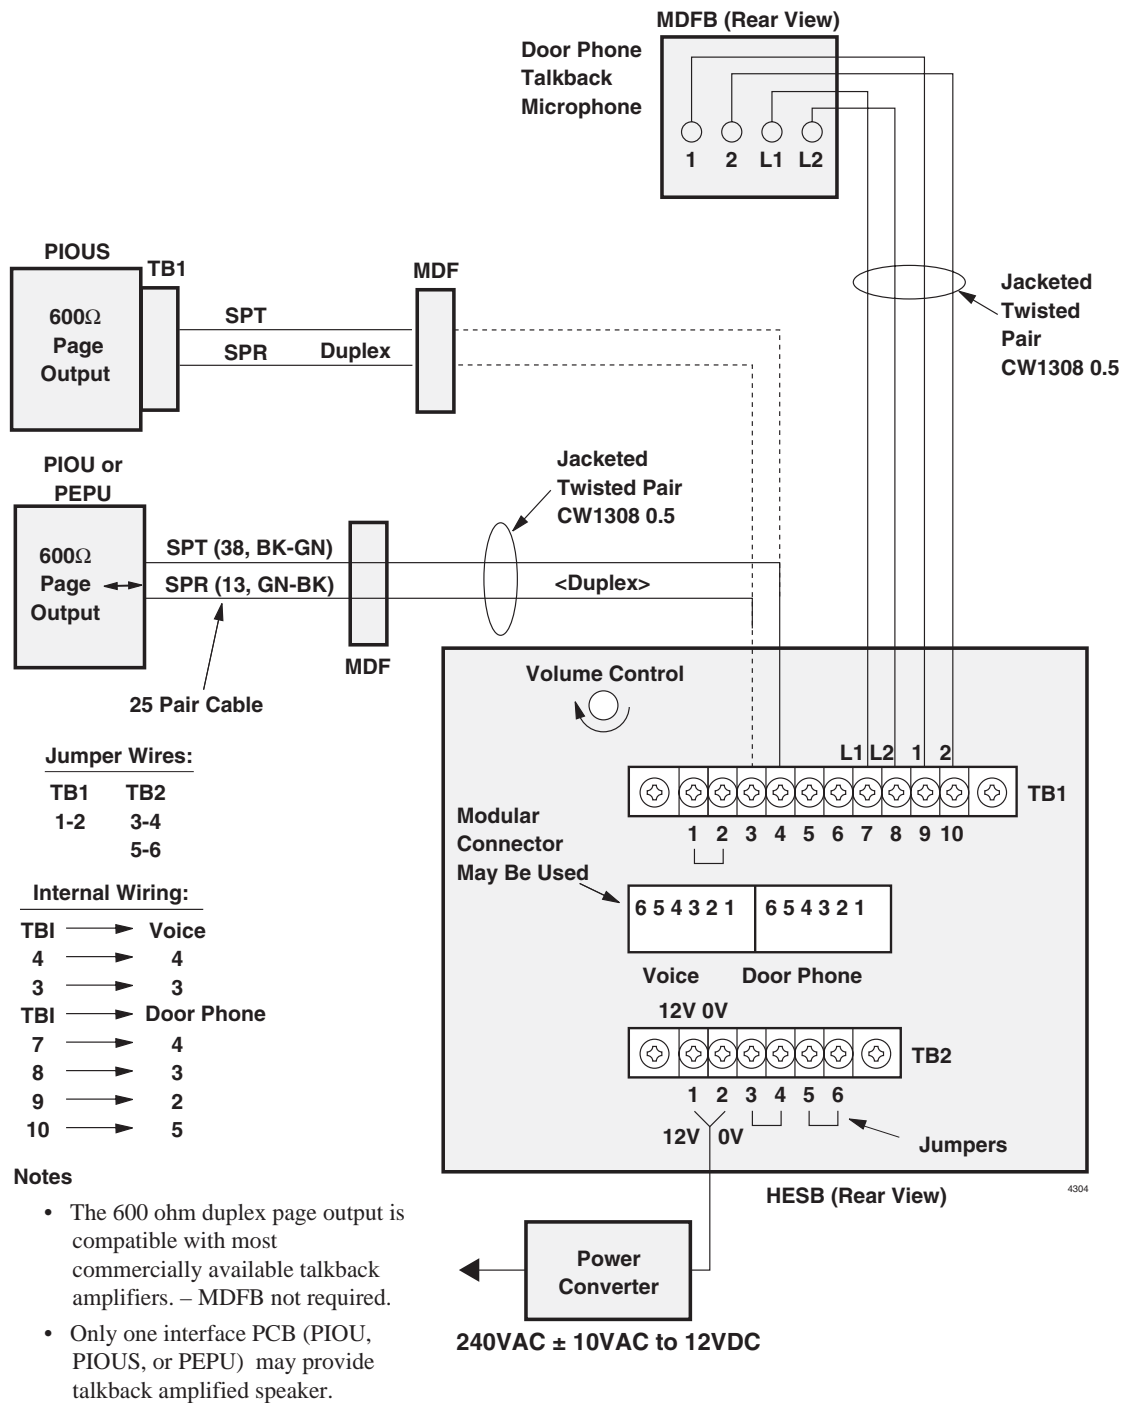

Figure 8-23 Amplified Page/Talk-Back with HESB Interface
1. Connect a jumper between terminals 1 and 2 of the HESB TB1 terminal block (see Figure 8-23).